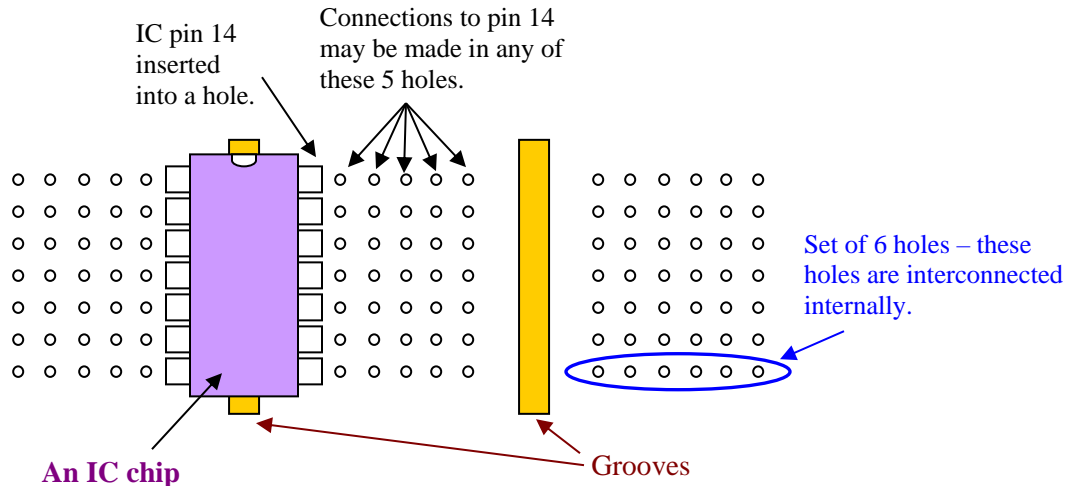

Figure 2. Detail of the breadboard.
Circuits are wired on the breadboard, a small portion of which is shown in Figure 2. The main part of the breadboard has a number of grooves, over which an integrated circuit (IC) chip fits, as shown in Figure 2. Each pin of the chip is inserted into one of the 6 horizontal holes, all of which are connected together internally. Thus, to make a connection to a pin, you insert a wire into one of the remaining 5 holes that belong to the same set of 6 holes.